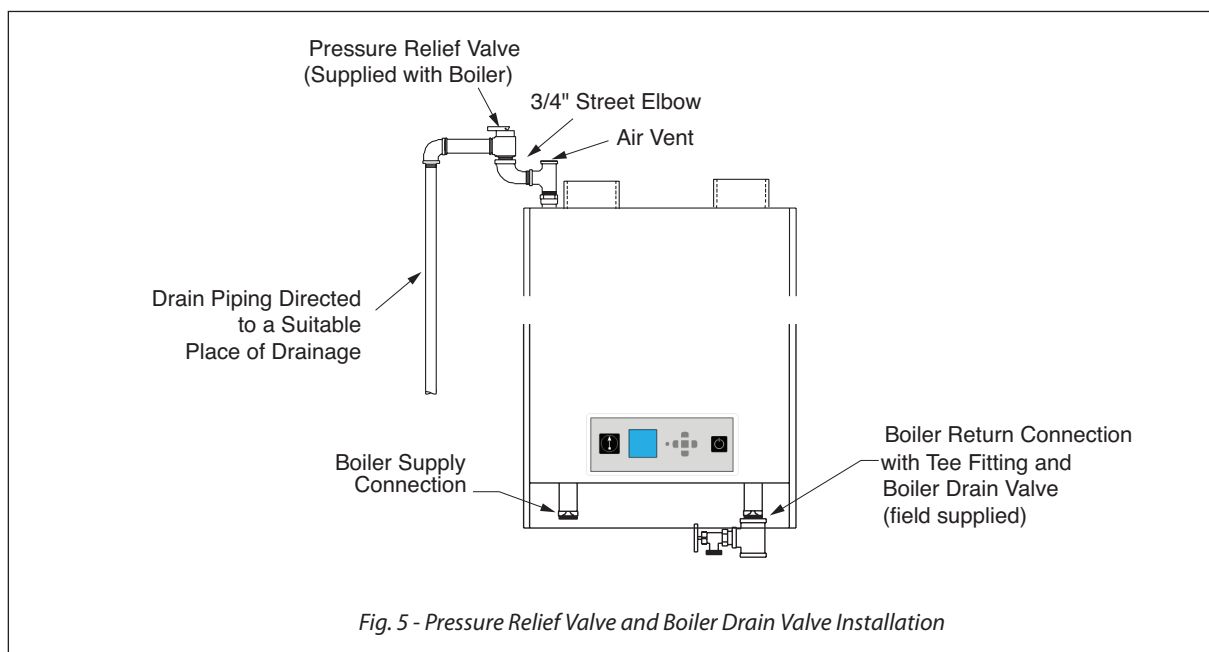

Fig. 5 - Pressure Relief Valve and Boiler Drain Valve Installation
1. The PRESTIGE Solo is supplied with a 30 psi [2.1 bar] pressure relief valve and must be piped using the PRV connection as shown in *Fig. 5 below*.